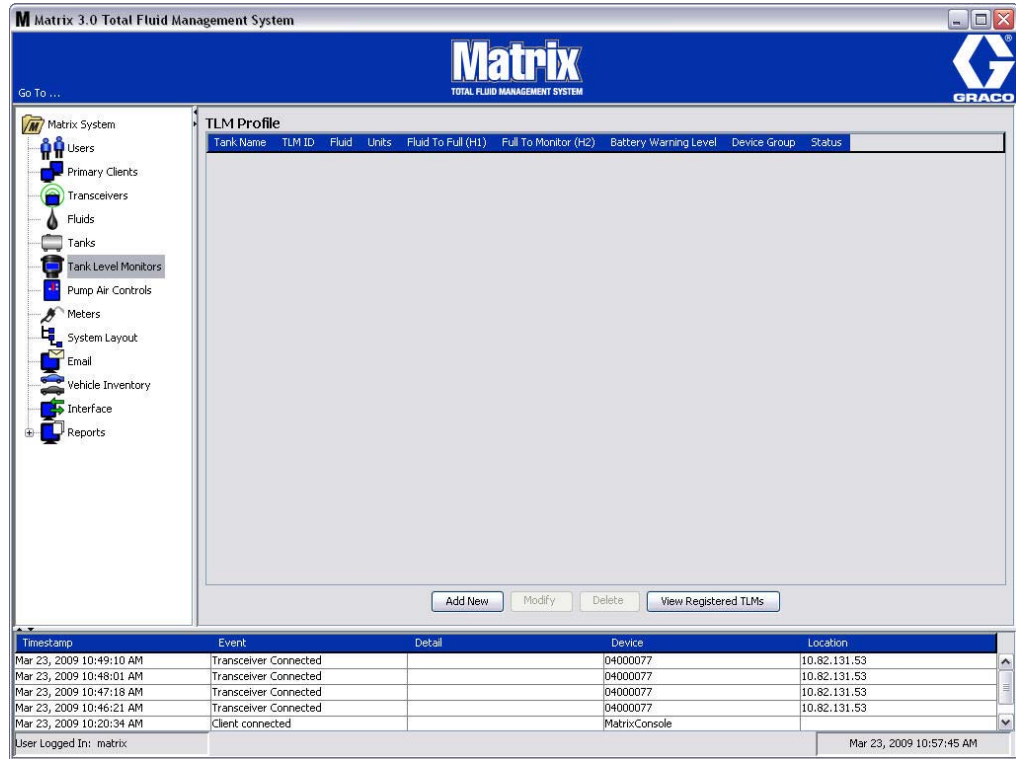

FIG. 120
The screen shown in FIG. 120 on page 90 is used to add, edit, remove and create a profile for the Tank Level Monitors (TLM's) in a Matrix system. Each Matrix tank level monitor (TLM) has embedded in it a unique device ID. The device ID is what differentiates one TLM from another.
2. To create a profile and add a new Tank Level Monitor to the Matrix system, click the Add New button (FIG. 120).